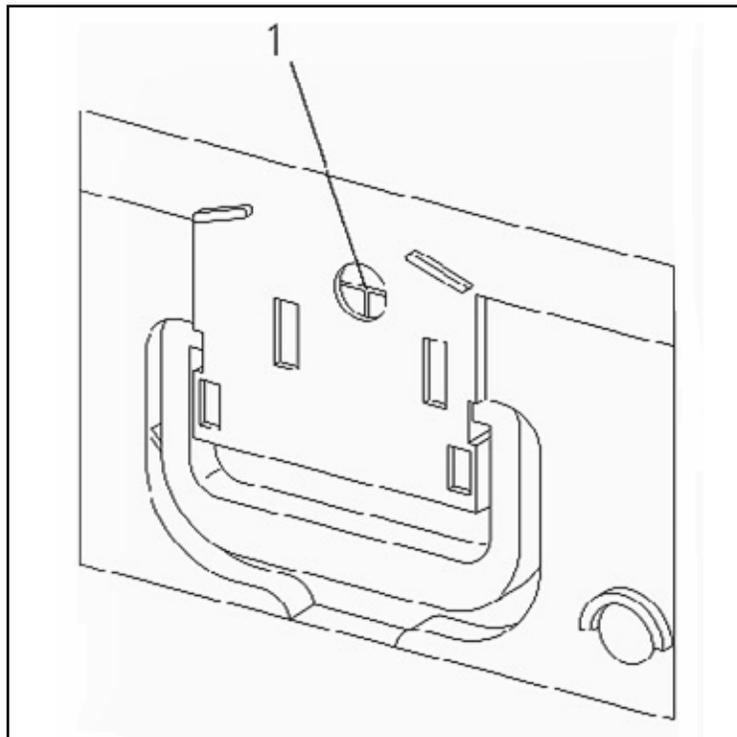

Figure 5-16: Door lock emergency release.
2. To return the locking latch into the right position, push on the emergency release with a screwdriver, see figure 5-16, Pos.1.